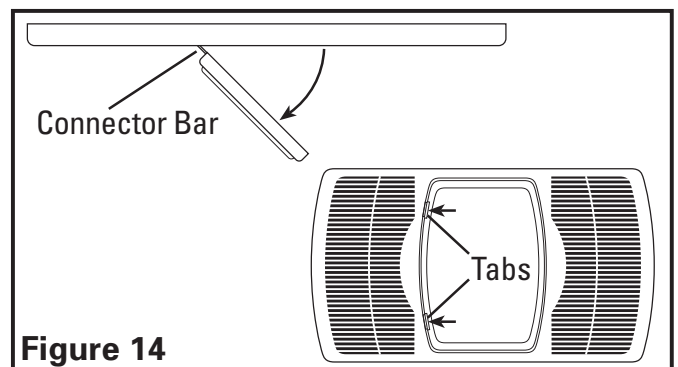

Figure 14
- Changing the Light Bulb:** Disconnect power to the unit. Open light lens by pushing in on the two tabs of light lens and pulling outward from lens. The lens will swing open on the connector bars. DO NOT remove the lens from the grill (**Figure 14**).